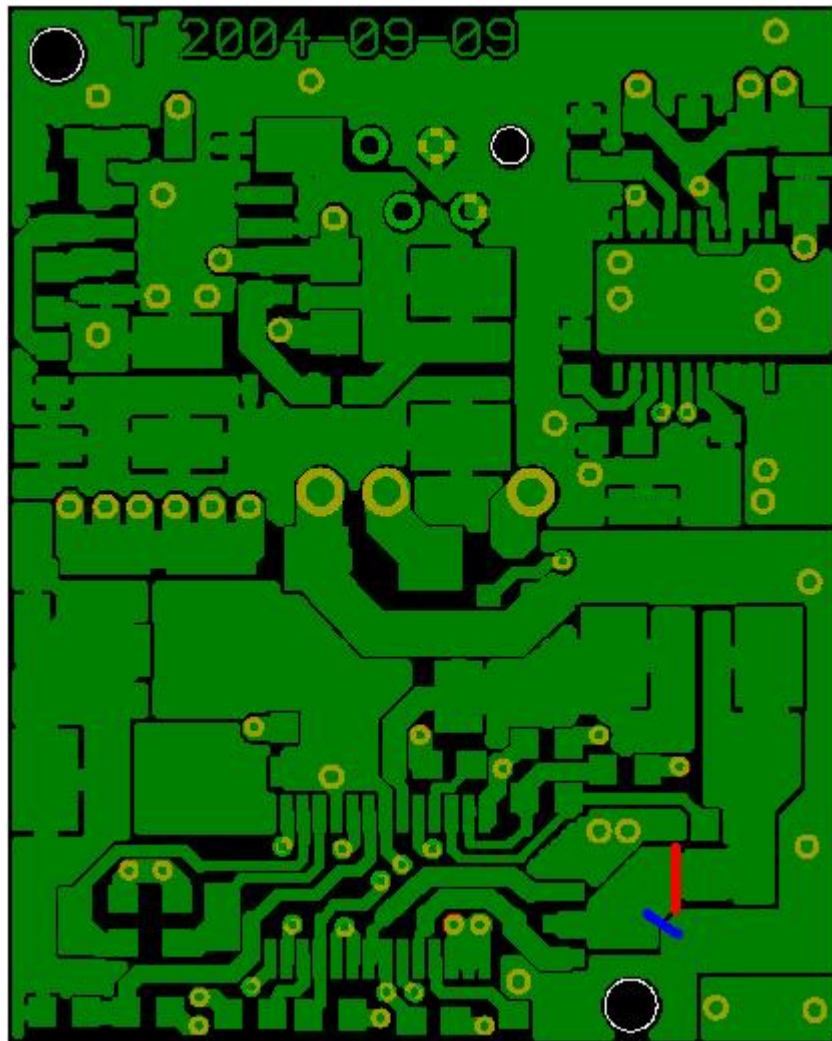

Figure 5: Change PCB under U4
- Change the PCB under U4 (FDS8928A) Disconnect PCB at red position and connect the PCB at blue position as shown in Figure 5.